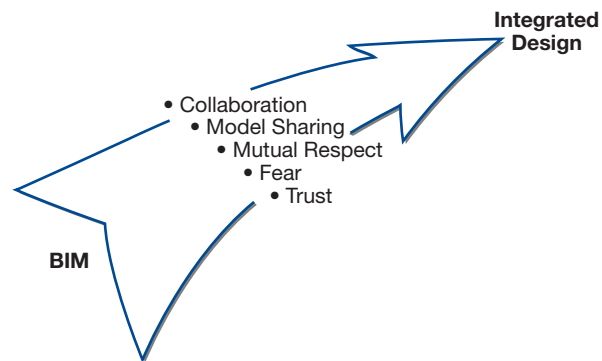

Figure 5.7 What stands in the way of moving your practice from BIM to integrated design?
**PR:** As an architect, I would have to say I don't envision a world without architects. Mortenson, as a construction company, is a builder through and through. We're very good at leveraging technology to communicate the project's design intent to all stakeholders—but we don't want to define what that design intent is on any given project. It's a question of where our core competency resides. We have a number of architects on staff whose role is to integrate the process, not eliminate or replace design partners. (See Figure 5.7.)